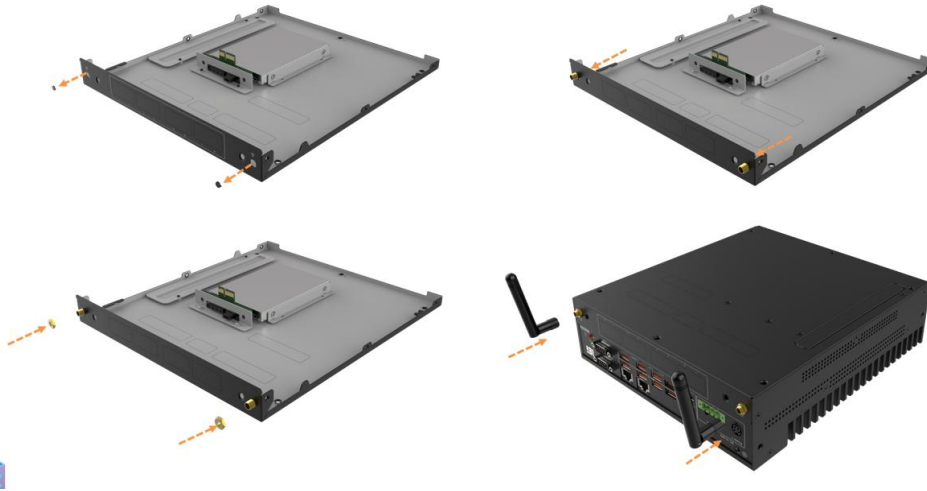

Figure 3-11: Wi-Fi Module and Wi-Fi Antenna Installation
Step 5: Install the external antennas (**See Figure 3-11**)